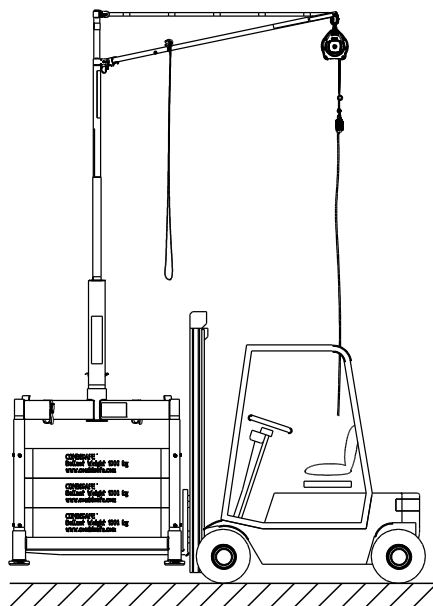

Figure 32. *Lifting the whole unit for transportation.*
1. Use a fork lift truck, or equivalent vehicle, place the forks underneath the BOTTOM FRAME base with the forks in a horizontal position and as wide as possible, see Figure 32. Lift the unit slowly and make sure that no part on the LOADING SYSTEM MkII might be stuck, and thereby preventing it from being lifted smoothly.